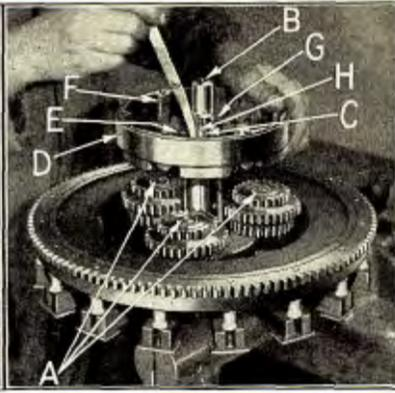
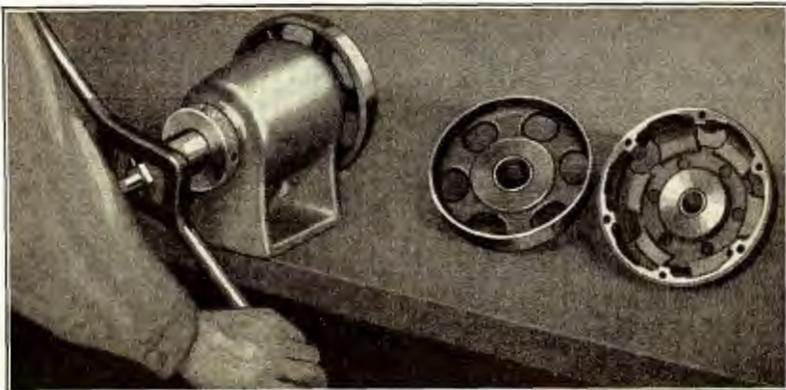

Fig. 196
Fig. 199
- 292** Check the triple gears on the triple gear shafts. If there is more than .005" play between bushing and shaft (See "A" Fig. 196), new bushings should be installed in the gears. The bushings are then reamed (All new bushings installed in transmission drums and gears are reamed to a .002" running fit. When the reaming operation is completed remove all cuttings.) When installing new bushings in triple gears, make sure that the flange face of the bushings project from .006" to .010" over side of gears (See Fig. 197.)
- 293** Examine transmission gear shaft (See "B" Fig. 196), also the keyway "C" in shaft, if the shaft is worn more than .002" undersize or if the keyway in the shaft has worn so that the key will not fit tightly a new gear shaft should be installed.
- 294** Examine brake drum at points "D", "E", "F" and "G" Fig. 196; if web is cracked, lugs badly worn, rivets loosened, keyways worn oversize or drum is scored, a new brake drum should be installed.
- 295** Place brake drum on gear shaft and check the clearance between shaft and bushings with a thickness gauge as shown at "H" Fig. 196. If there is more than .005" clearance between bushings and shaft, new bushings should be installed and reamed. The old bushings are pressed out of the drums and new bushings pressed in with a bushing driver on an arbor press as shown in Fig. 198. To prevent bending or cracking web in drums when removing and installing bushings, place drums on a drum support so that the pressure will be directed on the support rather than on edge of drums. It is important that the new bushings be accurately reamed; this can be done by placing drums in an alignment fixture when reaming the bushings (See Fig. 199).